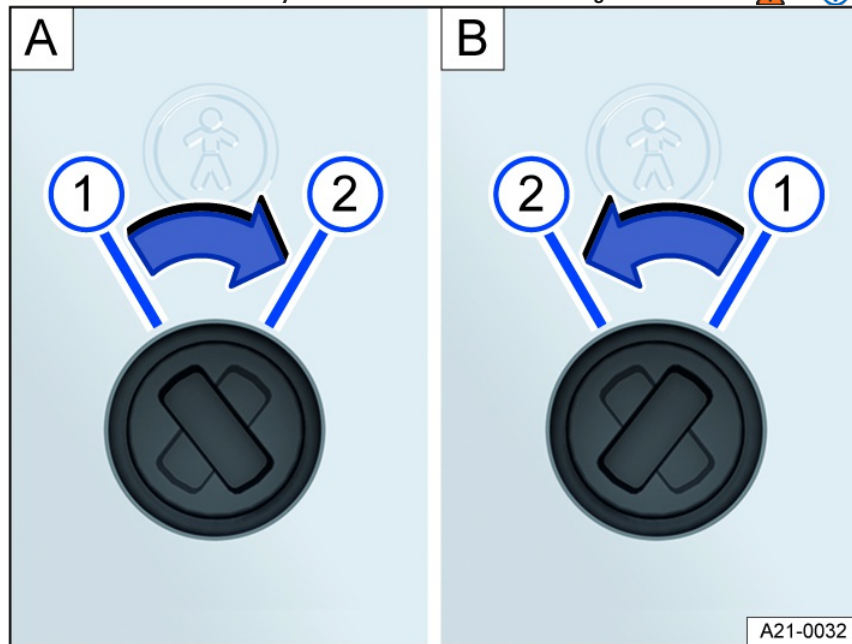

Fig. 57 Child safety lock: [A] left rear door, [B] right rear door.
2. Bring the slot into the corresponding position *fig. 57*.